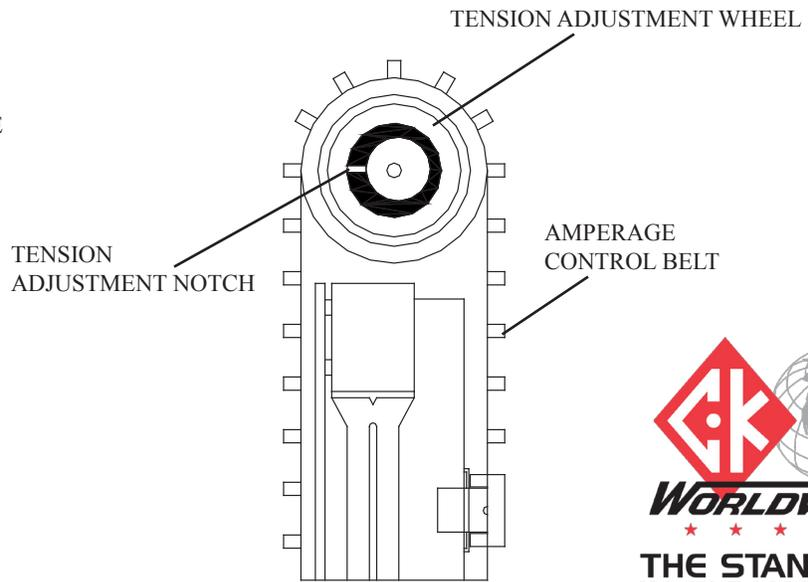

FIGURE 2
2. Remove the cover plate exposing the amperage control belt and tension adjustment wheel. (FIG. 2)
3. Locate notch in tension adjustment wheel. (FIG. 2)